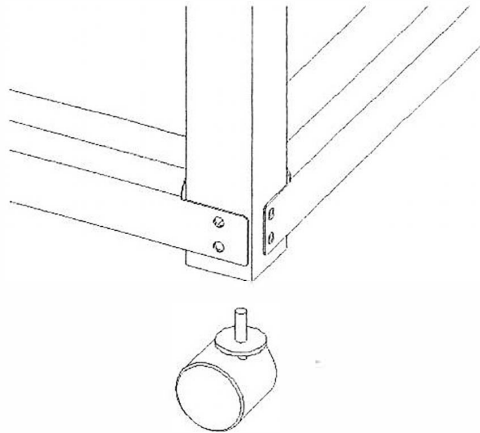

FIGURE 5
- 1- Remove the four (4) casters from carton.
- 2- While lifting the right side of cart chassis, carefully align and tighten one (1) caster, into the caster mounting bracket, located on the bottom of each leg, on the bottom right side of the cart chassis base frame. Repeat this procedure for the left side of the chassis. (SEE FIGURE 5)